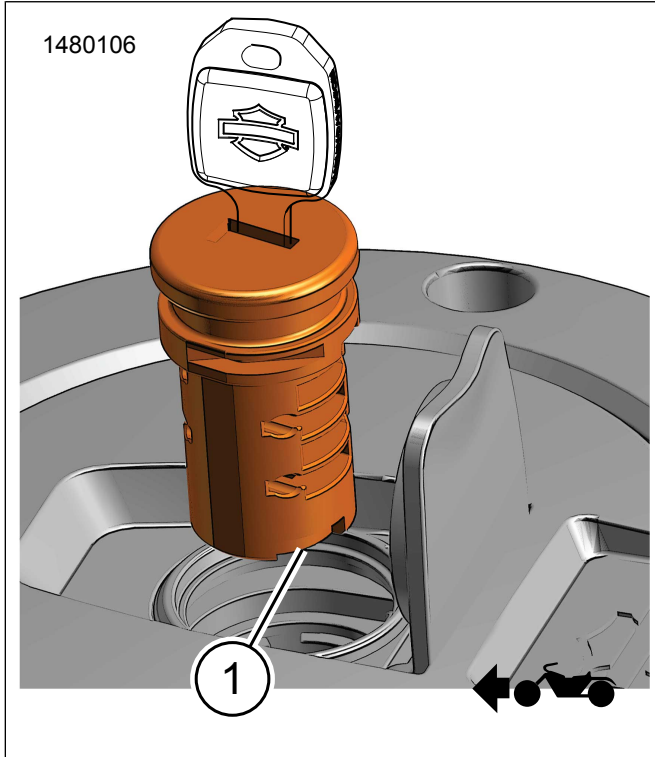

Figure 9. Lock Cylinder Orientation
3. See Figure 9. Orientate lock cylinder notch (1).